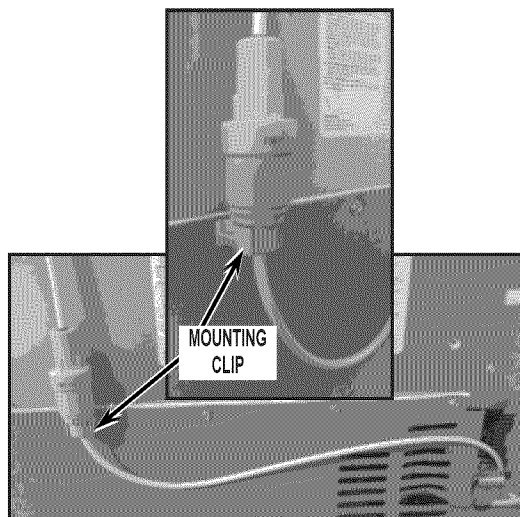

FIGURE 5
- Attach the pressure regulator to the mounting clip in the orientation shown (Vertical: Outlet on bottom / Inlet on top) See *Figure 5*.